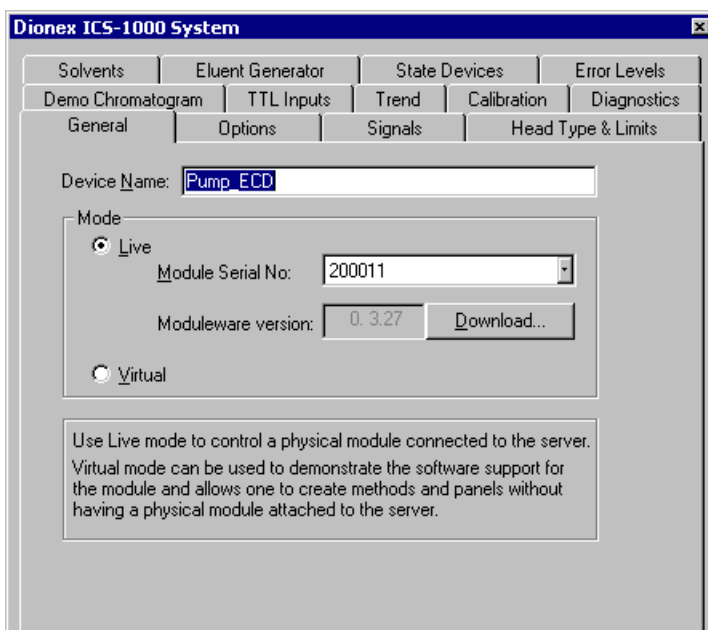

Figure B-13. ICS-1000 System Properties
12. The ICS-1000 System dialog box opens (see Figure B-13). The **General** page shows the Device Name (**Pump_ECD**), the Mode (**Live**), and the Module Serial No.